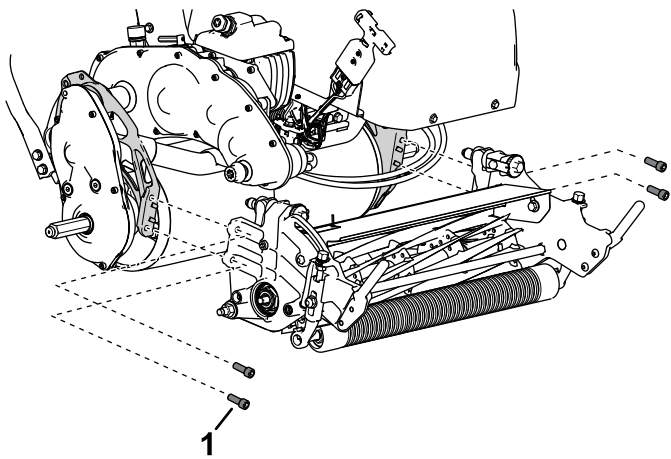

Figure 34
5. Use 4 socket-head screws to secure the cutting unit to the frame (Figure 34).